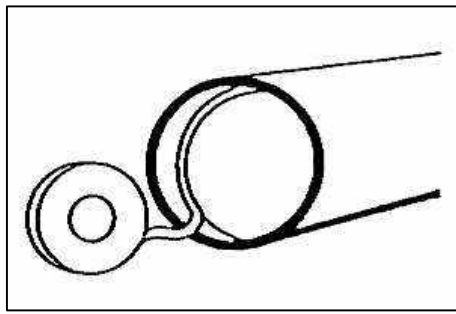

Figure B2.4
- 3.3.5.3. Position the disc within the pipe and tape in place with water-soluble paper. Repeat procedure for other section. Insert the backing gas into the joint with a needle valve and make root pass in the usual manner (Refer Figure B2.4).